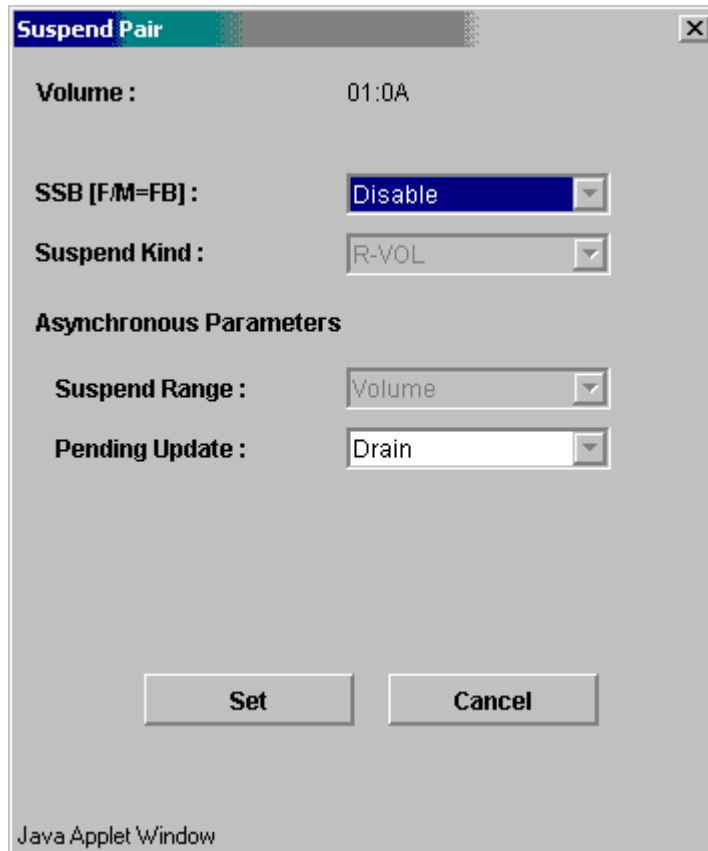

Figure 5.11 Suspend Pair Panel (Asynchronous)
The Suspend Pair panel (see Figure 5.11) allows you to suspend TC390 pairs and select the suspend options for the pair. To open the Suspend Pair panel, select the **Pair Operations** tab, select the subsystem or the desired CU image, select the pair(s) to be suspended, right-click, and select **Suspend Pair**. For further information on suspended pairs, see section 2.5.
5. Right-click, and select **Suspend Pair** to open the Suspend Pair panel (refer to Figure 5.11).